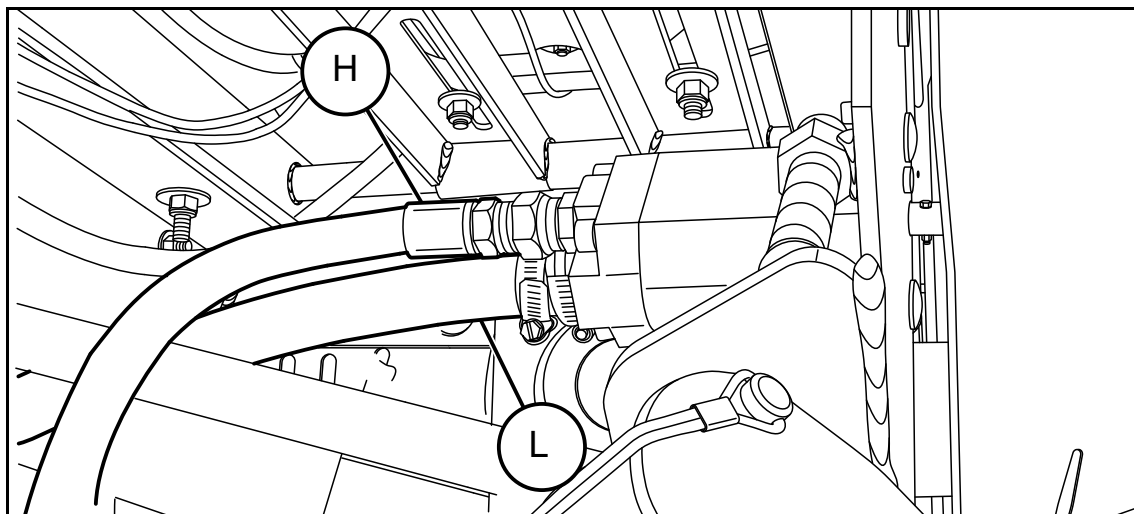

Figure 3.26 Oil Pump
12. Attach hose H to the outlet port of the pump (see Figure 3.26). Route hose H toward the spool valve.